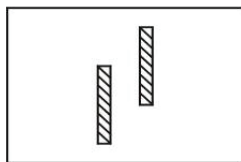
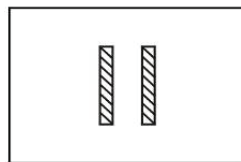
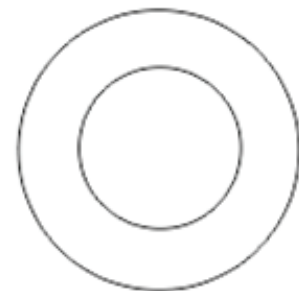

Fig.55
Fig.56
Fig.57
(2) Vertical Phoria
Turn auxiliary lens knob ②① to set the left eye at 10ΔI so that letter columns are completely separated. If the patient has vertical phoria, it will be shown as Fig.55. Then turn the rotary prism to the other eye, with scale of 0 horizontal (as shown in Fig.57). Turn prism rotation knob ①① so that there is no difference between the upper and the lower (see Fig.56). Then scale of rotary prism indicates vertical phoria power.